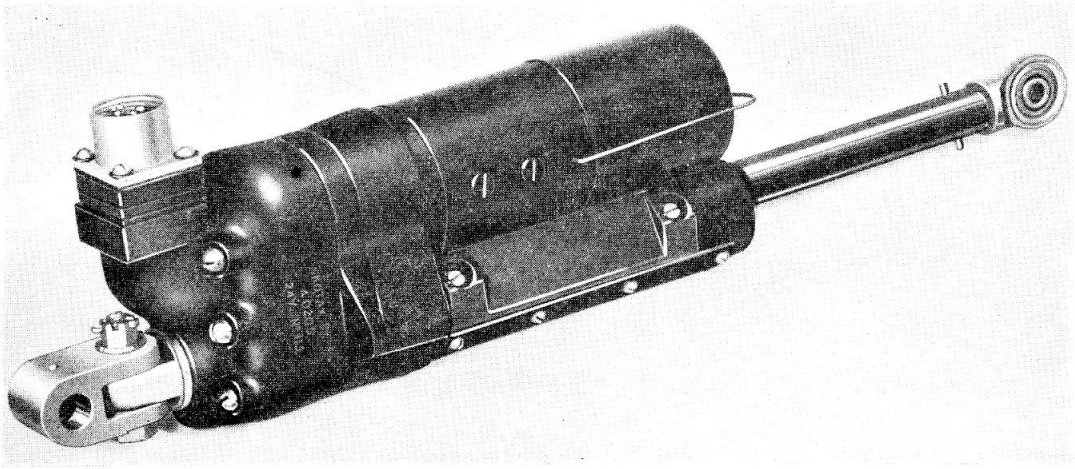

Fig. 1. Actuator Type A0205/4
1. The A.0205/4 Actuator now supersedes all previous units of the A.0205 variants, i.e., A.0205/1, A.0205/2 and A.0205/3. The /4 units are fully tropicalised. A general description of actuators in the A0200 series will be found in the main chapter. The actuator, Type A0205/4 (fig. 1) follows the same general construction; it has, however, a different end cover and shackle assembly which also forms the switch cover.